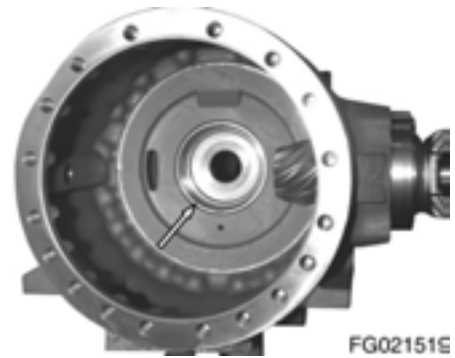

Figure 148
3. Insert the determined shim (e.g. $s = 1.1 \text{ mm}$) into the hole of the axle housing and adjust the bearing outer ring (Figure 148) until contact is obtained.